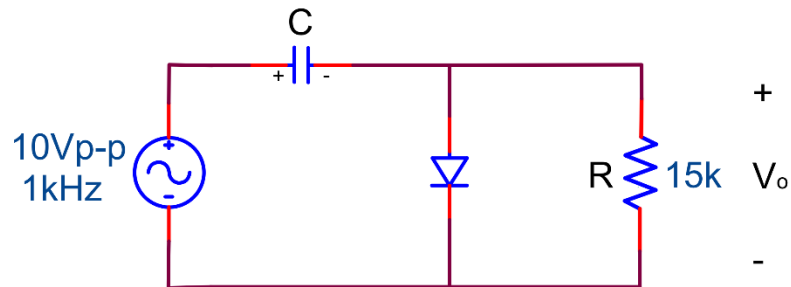

Figure 3.7
4. Refer to the circuit in Figure 3.7. Assume a 10V peak to peak, 1 kHz square wave input. Sketch the output waveform assuming: